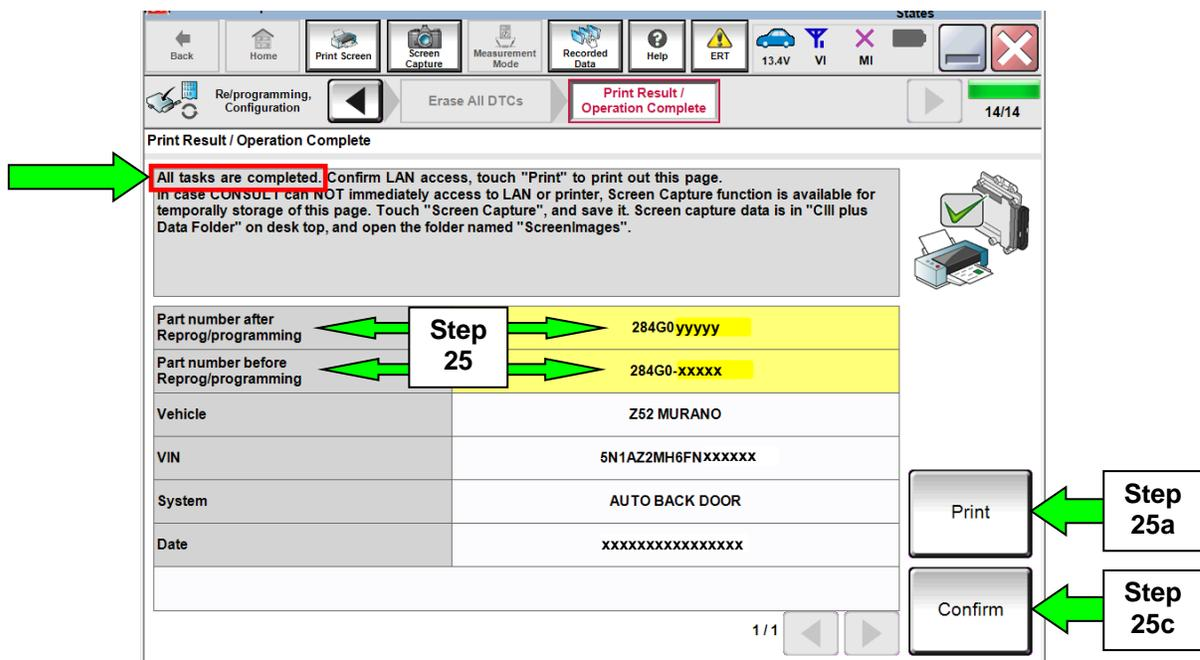

Figure 20
- a. Print a copy of the screen in Figure 20 by selecting **Print**.